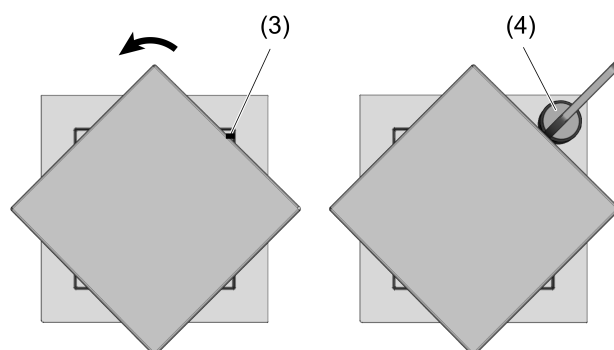

Figure 2: Dismantling a light attachment (with interlock)
- Rotate the light attachment by 45° to expose the marking (3) (Figure 2).
- Place the magnet (4) at the level of the marking (3) on the cover until a click is heard.